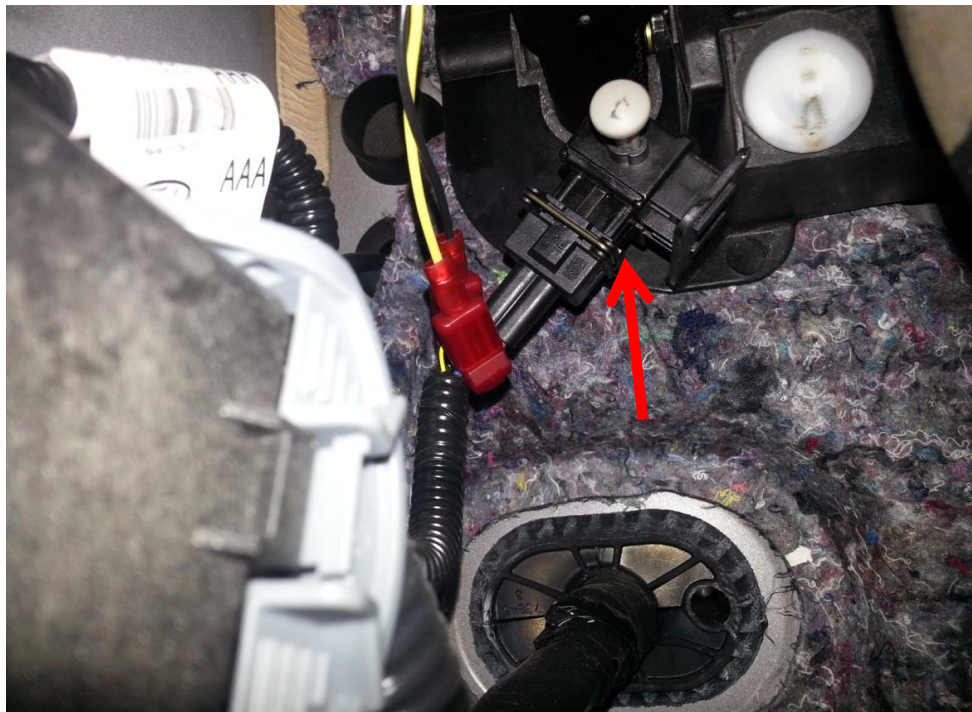

Figure 1 (Clutch Interlock Sensor)
1. Connect AUTO-BLiP black wire to the yellow/black wire on the Clutch Safety Interlock switch (Fig 1).
2. Connect AUTO-BLiP yellow wire to the **blue/orange** wire on the clutch Safety Interlock switch (Fig 1).